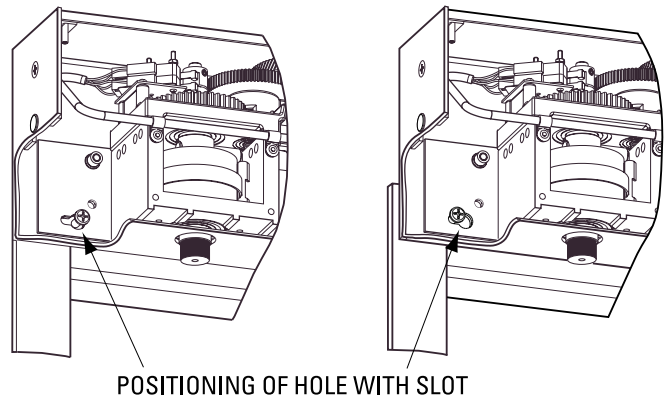

Fig. 11
1. Install the header assembly over the two screws, then slide it sideways so that the screw occupies the smaller part of the opening (see Fig. 11).